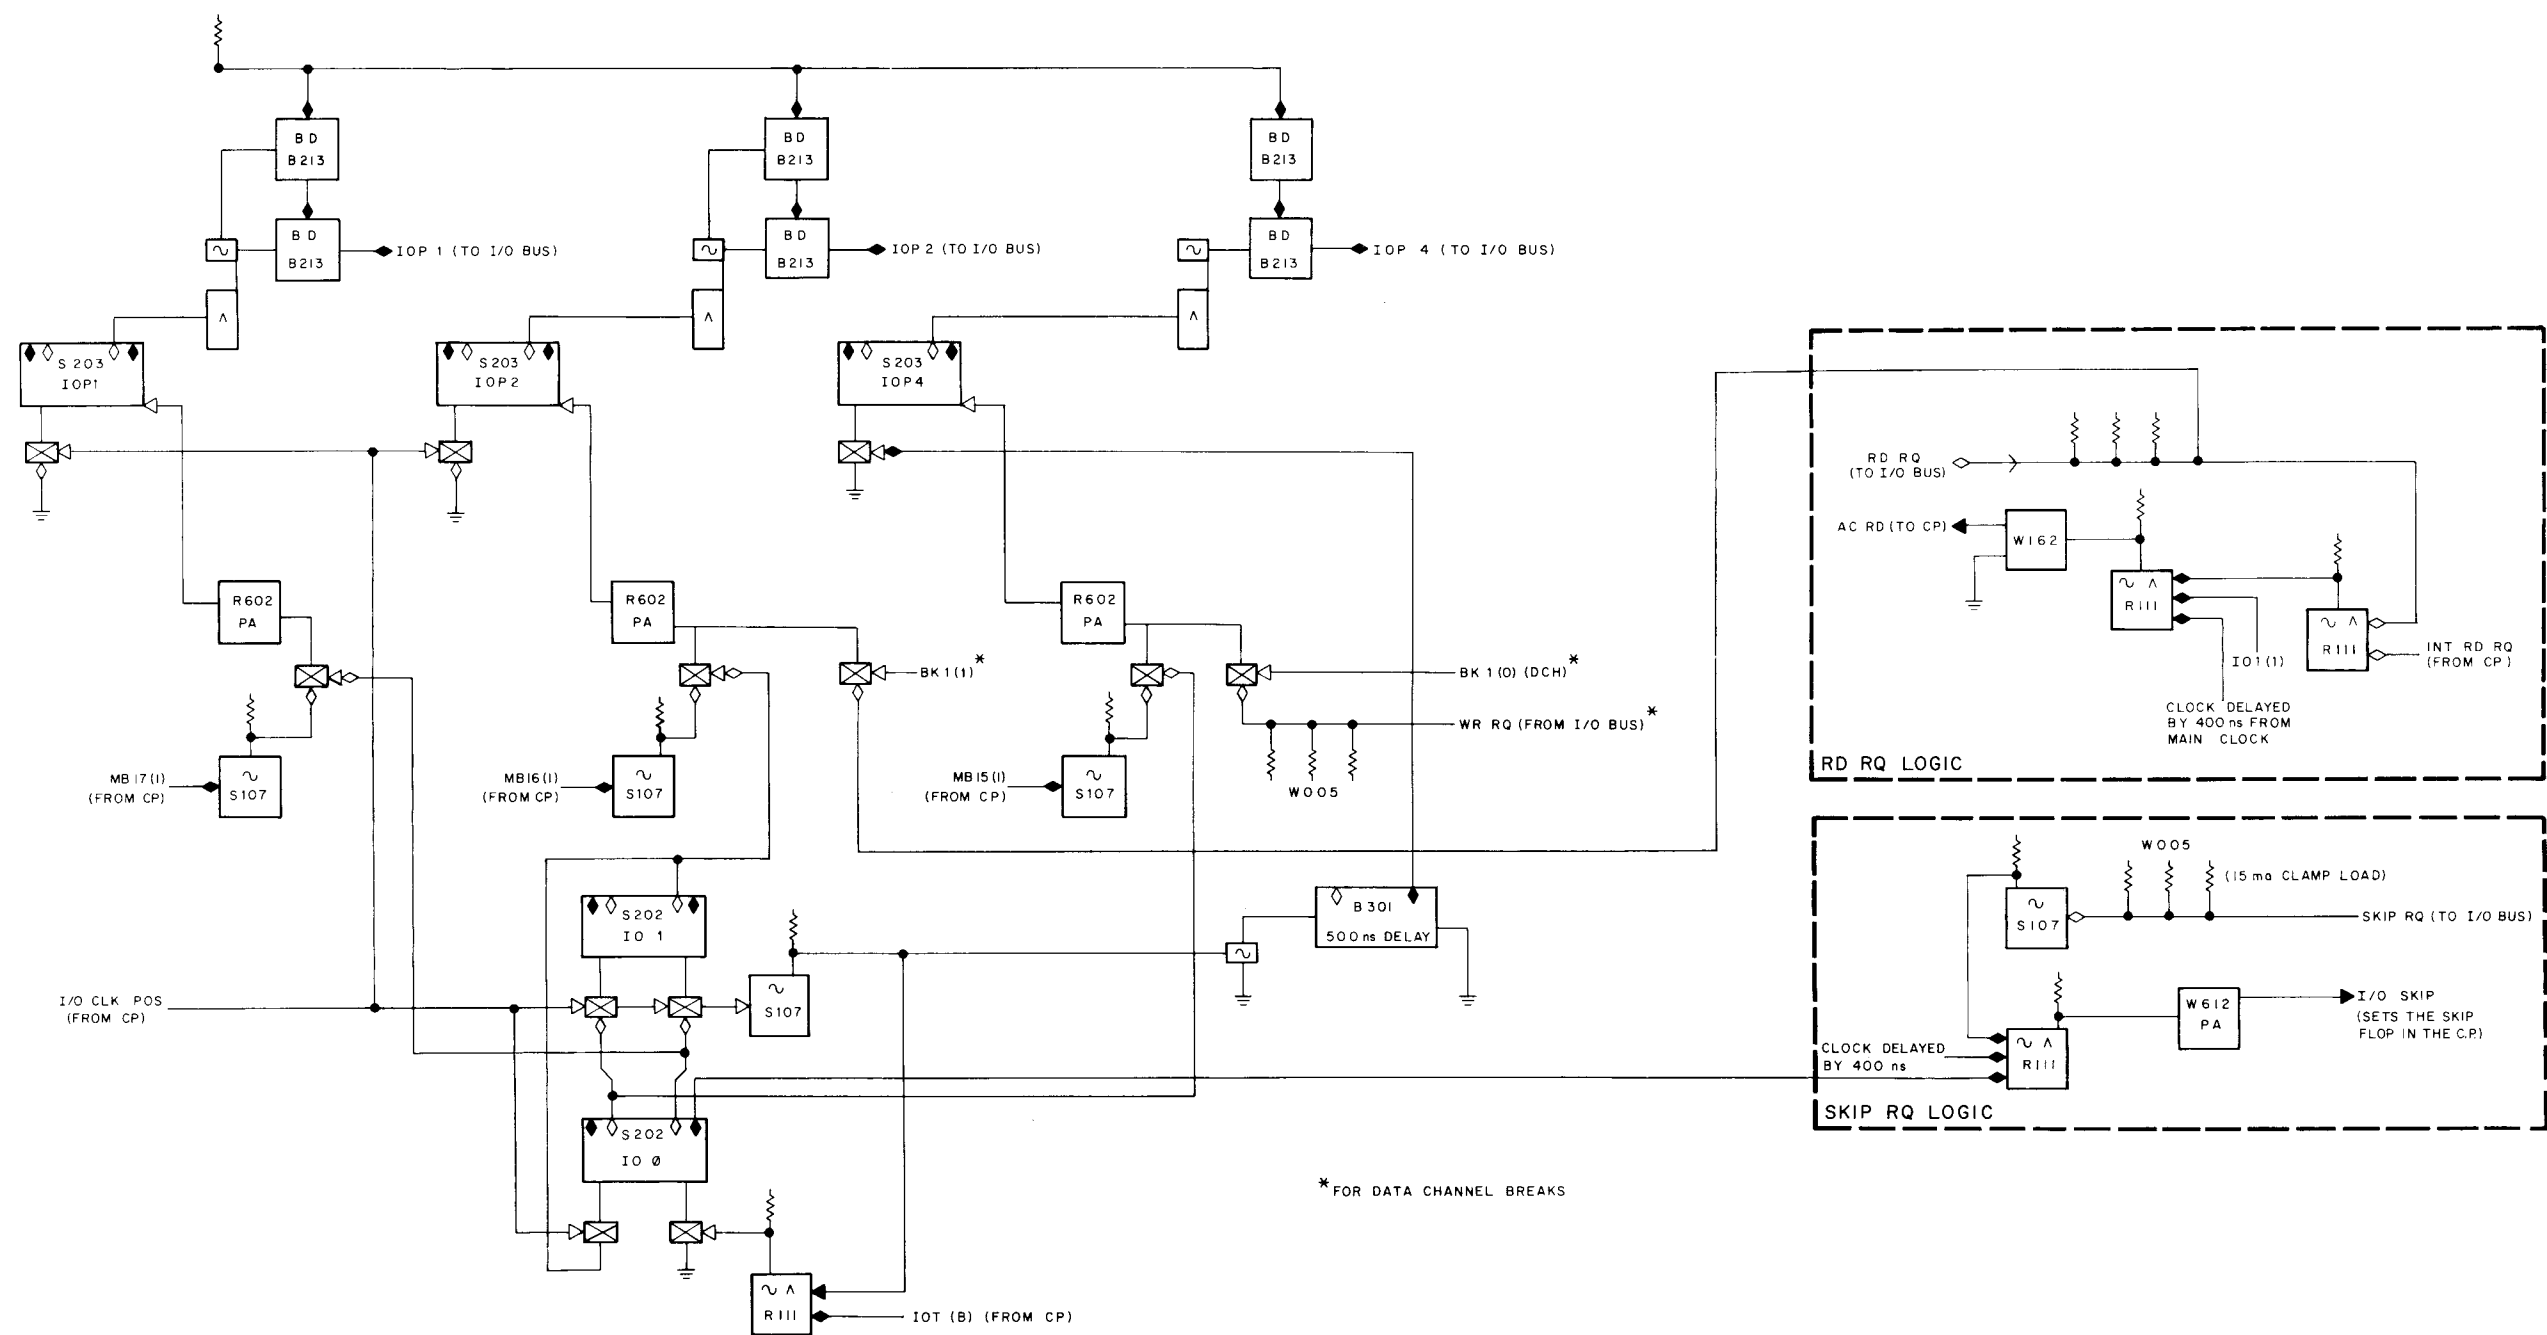

Figure 2-6 IOP Control Logic
IOP Control Logic - The IOP control logic is shown in Figure 2-6. A 2-bit counter (IO0, IO1) is driven by the I/O CLK POS clock pulse during the IOT instruction. The counter pulses each of the three R602 Pulse Amplifiers in turn. If any one is enabled by the appropriate MB bit 15, 16, or 17, the associated flip-flop, IOP1, IOP2, or IOP4 is set. IOP1 and IOP2 are reset by the next I/O CLK POS pulse while IOP4 is reset by a delay.
RD RQ - This ground signal, which must be issued by the device requesting data transfer to the computer, is gated with IO1 to the IOP counter and is used to generate an AC RD control pulse to the CP (see Figure 2-6).
Figure 2-6 shows the SKIP facility control logic. Here, the grounded SKIP RQ line is inverted, gated with bit I/O (1) of the counter, and finally triggers the W612 Pulse Amplifier which sets the CP SKIP flip-flop. This flip-flop forces the computer to add 2 to the PC instead of 1.
INC MB Signal - The INC MB signal is distributed between I/O facilities and control memory. Loading for INC MB is the same as that for RD RQ, shown in Figure 2-6.